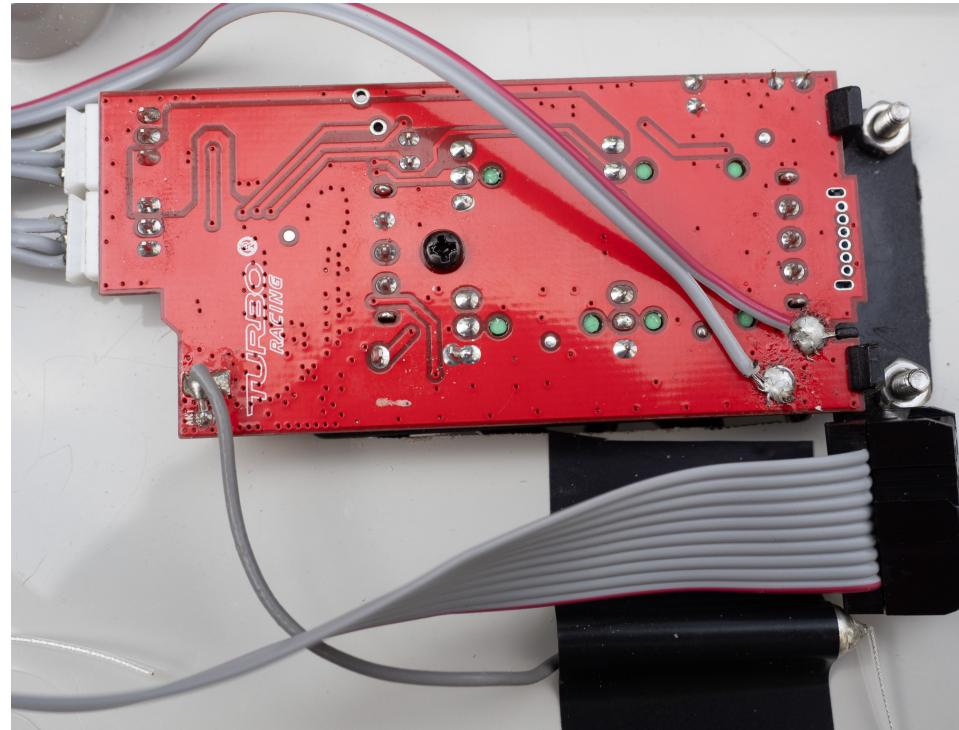

Figure 1: RC Cabling
- In Figure 1, the nose of the black SV1 connector is facing upward